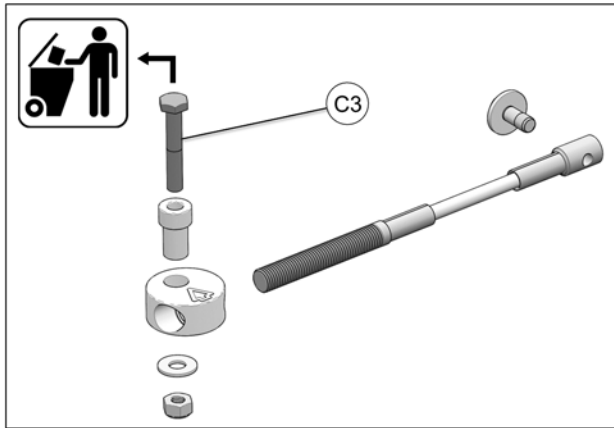

Fig. 21
12. Remove and discard M10 bolt (C3) from steering limiter cable parts kit as shown in Fig. 21